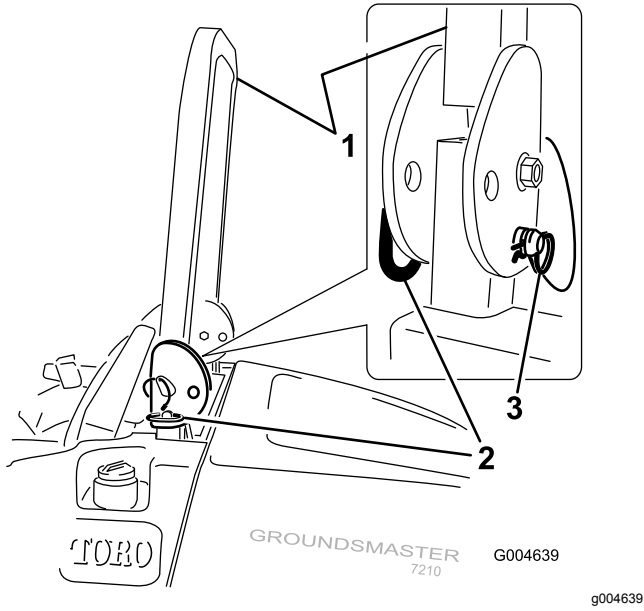

Figure 11
1. To lower the roll bar, remove the hairpin cotters, push the roll bar forward against the springs, and remove the 2 pins (Figure 11).
3. Install the 2 pins and secure them with the hairpin cotter pins (Figure 11).
4. To raise the roll bar, remove the hairpin cotter pins and remove the 2 pins (Figure 11).
5. Raise the roll bar to the upright position and install the two pins and secure them with the hairpin cotter pins (Figure 11).